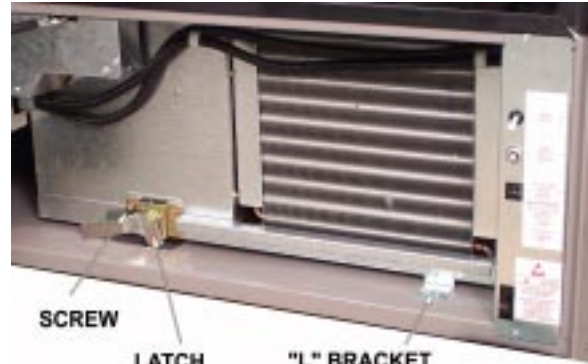

Figure 15
2. Remove the lower “L” bracket (figure 15).
3. Remove the screw from the latch (figure 15).
5. Remove the screw from the latch (figure 15).